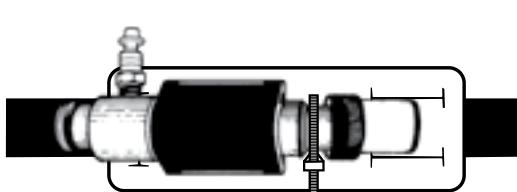

Figure 3
2. If the device will be worn in the horizontal position, align the tube on the heat shield as shown in Figure 3. If the tube will be worn in the vertical position, align the tube on the heat shield as shown in Figure 4.